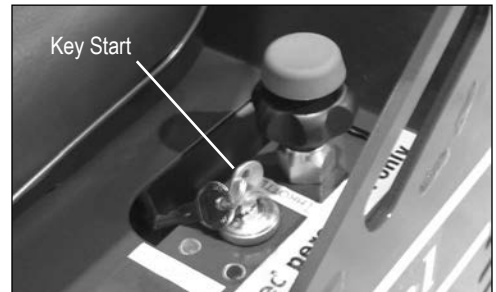

FIG. 6
1. Insert key to the power key start (Figure 6).